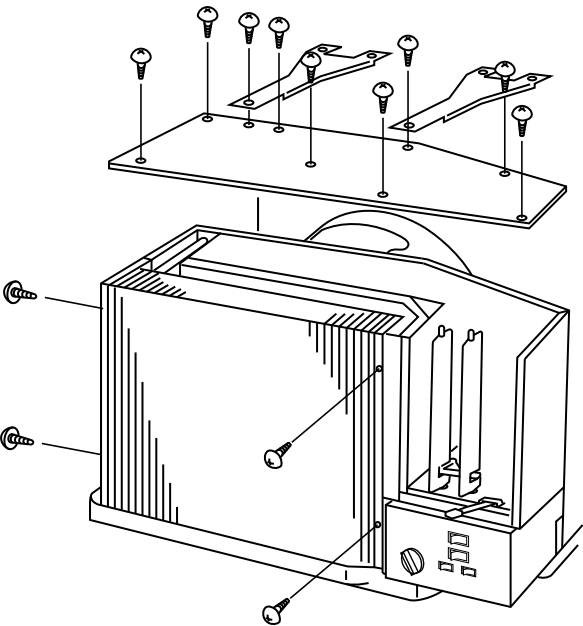

Fig. 10
(Fig. 10)
- (2) Remove screws holding evaporator. (Fig. 10)
- (3) Grasp lower portion of the evaporator with both hands and tilt it slightly and lift it carefully from the drain pan so as not to distort the copper tube.